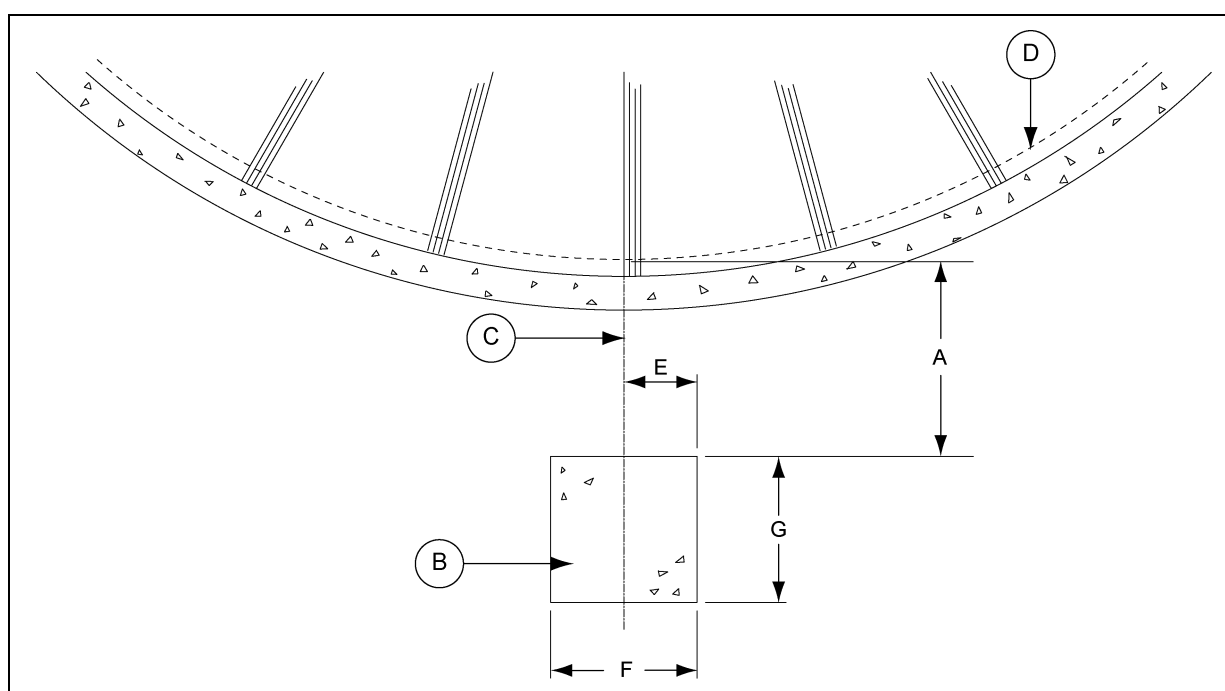

Figure 4AA Centrifugal Fan Foundation
4. If a downwind heater foundation is to be installed, the foundation width (F) should be 48" and extended towards the bin by 33".
6. The fan foundation should be perpendicular to the bin wall. *(See Figure 4AA.)*